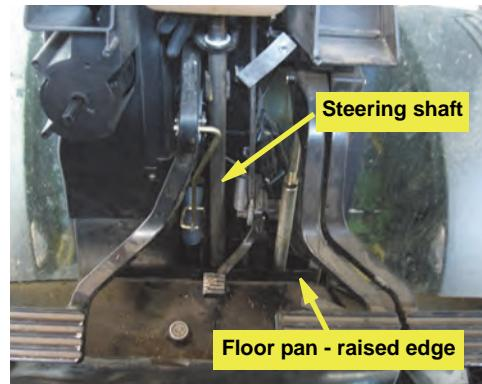

Figure 1b: Floor pan edge and steering shaft
- With the column covers removed, peel back the rubber flooring to expose the steering shaft and the raised front edge of the metal floor pan (Figure 1b).